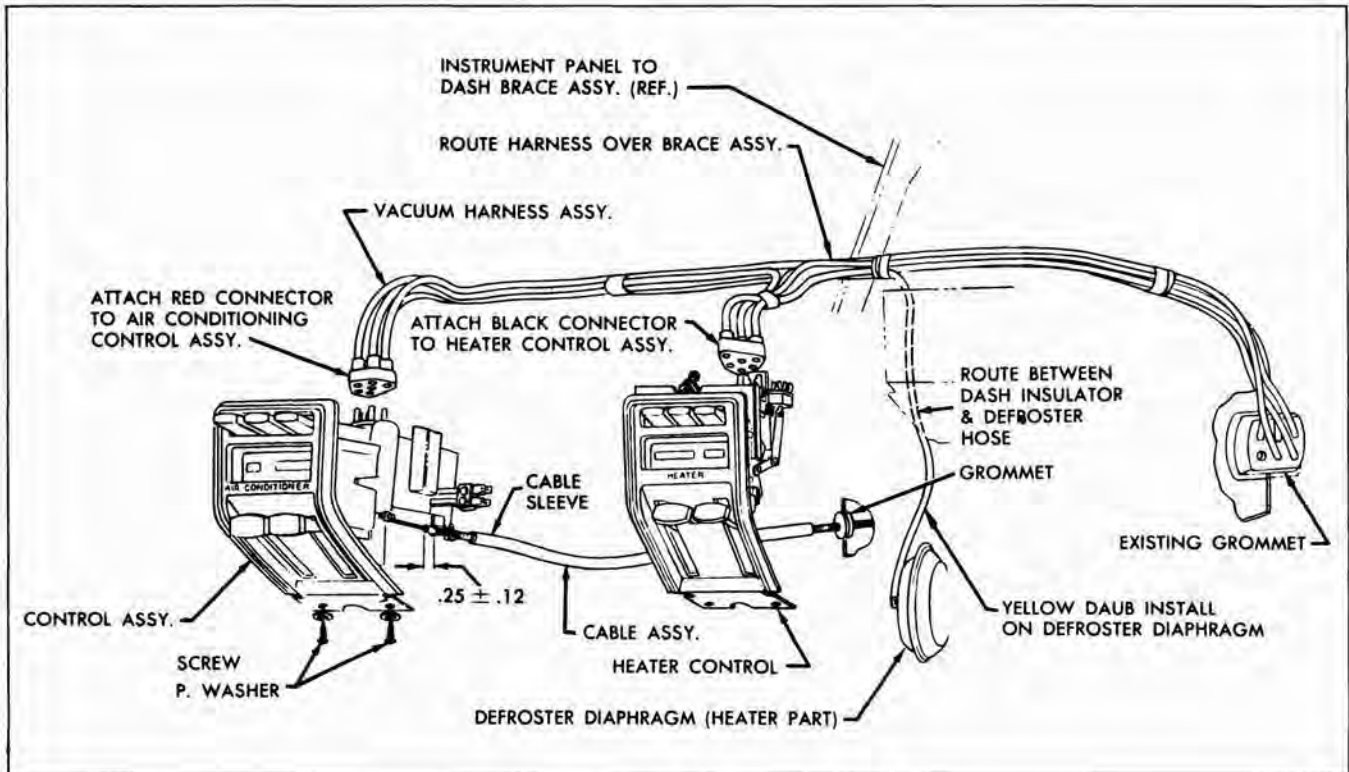

Fig. 5-42 Installation of Cables at Control Panel
5. Pull cable through dash and attach to control panel so cable housing extends through the cable clamp and  $\frac{1}{4}$ " beyond (Fig. 5-42).